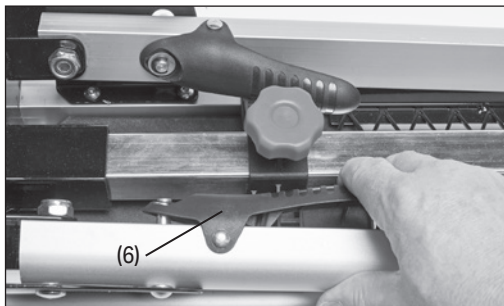
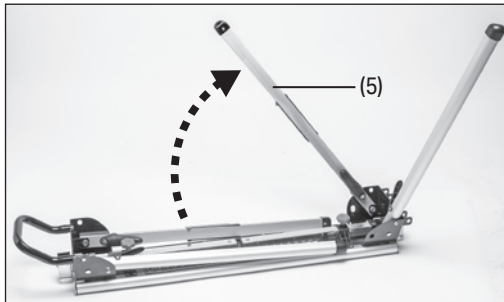

Fig. 3
Fig. 4
6.2 Unfold the Work Legs (Fig.3 – Fig.4)